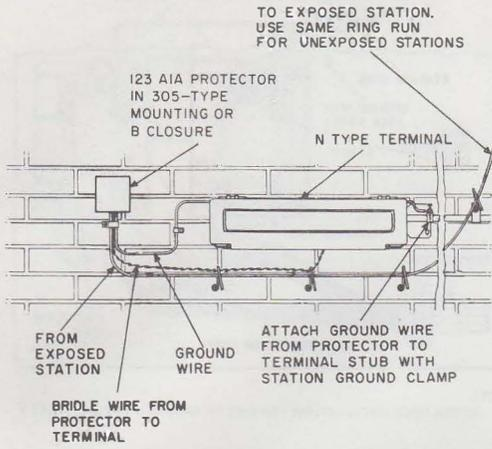

Fig. 88—N-Type Terminal, Wall Installation
12.05 Typical wall and pole installations, using protectors for cable protection, are shown in Fig. 88 through 91.